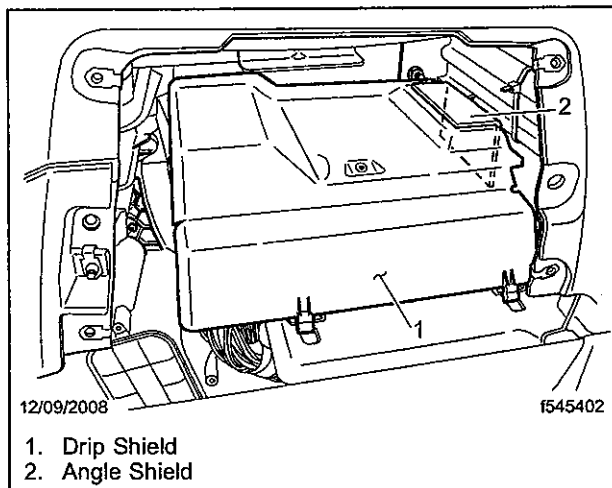

Fig. 7, Drip Shield Installed
13. Make sure the raised area on the right-side top of the drip shield is clean and dry, then remove the paper backing from the Velcro strip on the secondary, angle drip shield and attach it to the raised area on the drip shield on the right side of the SAM Cab. See **Fig. 7**.